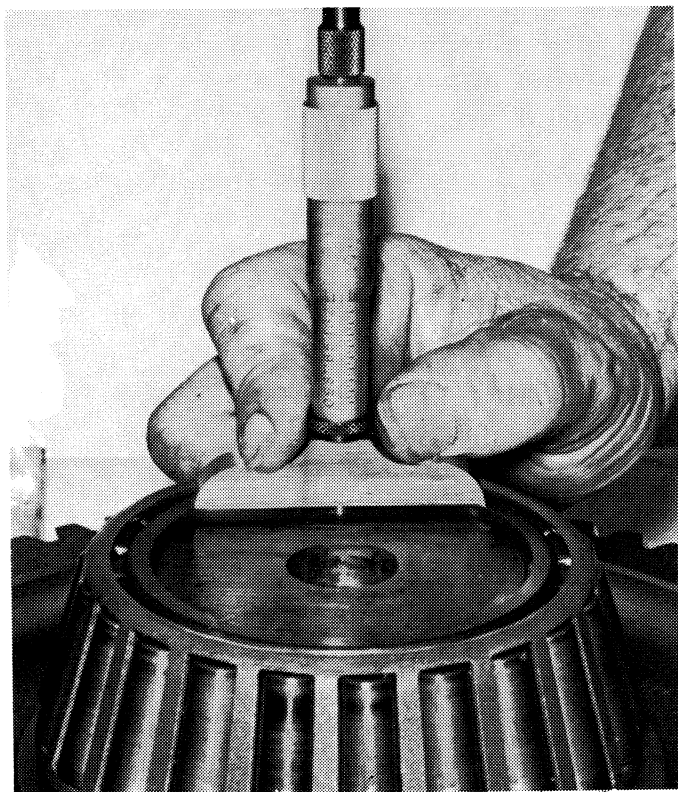

Figure 9-2. Measuring Distance from Front of Front Roller Bearing Inner Race to Front of Reverse Shaft.
Measure and record the distance from the bearing cage to the front end of reverse shaft. See Figure 9-2. This measurement is for shimming and it cannot be made as easily after the front half housing is installed.
m. Determine the amount of shims needed for retainer washer (Figure 12-3, 8) from the previous measurement of the gap between the bearing inner race and the front end of the shaft. See Figure 9-2. The shim pack is 0.005-0.010 less than the gap.